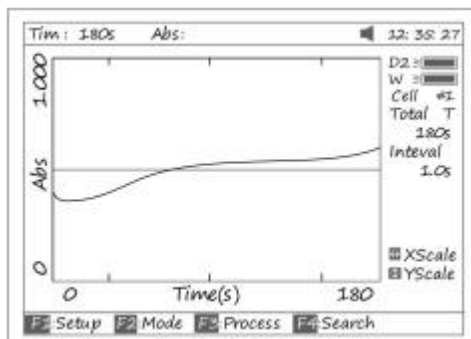

Fig 56
4. Pull the sample cuvette into Main Light Path, press **【START】** to scan the sample. After the delay time, the beeper beeps 3 times and time-scan starts. At the end of the time-scan, the beeper also beeps 3 times (Fig 56) ;
Press the key **【SAVE】** to save curve. Note: Load/Save requires the first kinetics display page Fig. 56. Press **ESC** if in Search to return to the required page.